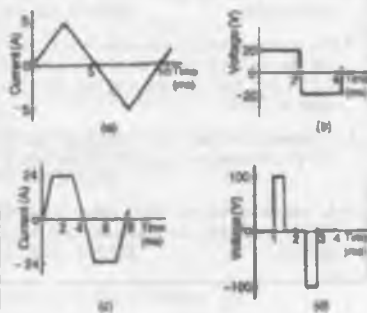

Figure 14.7
- 2 For the waveforms shown in Fig. 14.7 determine for each (i) the frequency (ii) the average value over half a cycle (iii) the r.m.s. value (iv) the form factor (v) the peak factor.